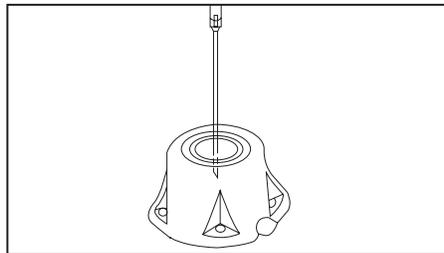

Figure 14. Needle and Access Port II
6. When adjusting band volume, the needle must be inserted perpendicular to the access port septum (Figure 14). Failure to do so may cause damage to the access port and result in leaks.